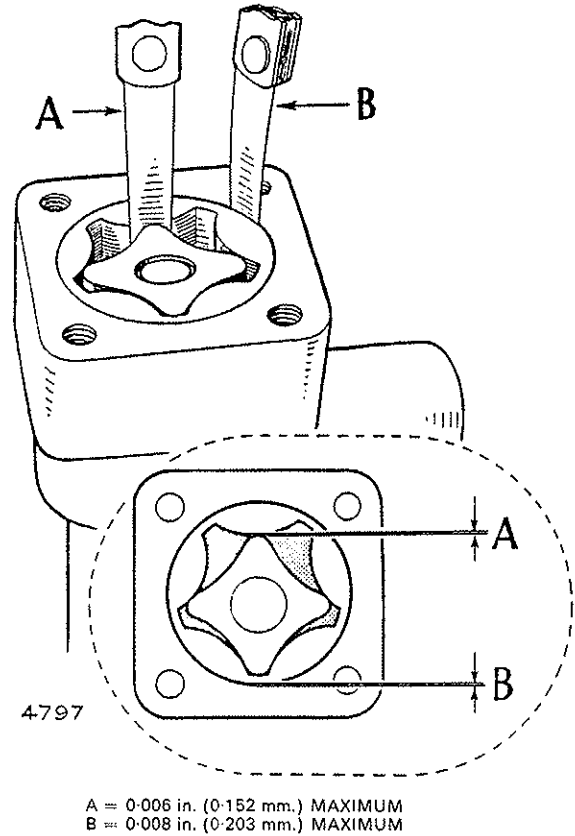

Fig. B.13. Checking the rotor lobe and driven ring clearance dimensions
- (b) The side clearances "A" between the top of the lobes on the inner and outer rotor as shown in Fig. B.13.
- (c) Clearance "B" (Fig. B.13.) between the outside of the outer rotor and pump body must not be greater than 0.008 in. (0.20 mm.) and not less than 0.005 in. (1.27 mm.). Should the clearance found be above the maximum figure a replacement pump should be fitted.